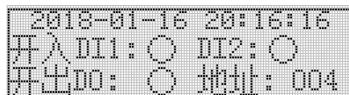

图 5 开入开出状态显示界面 Figure 5 Open status display interface
模块实时值界面，按下 \square 键进入开入开出状态显示界面，如下图 5 所示
Module real-time value interface, press the key to enter open status display interface, as shown in Figure 5
- **地址后的数字：** 代表当前主模块的地址标号，如图 5 所示主模块地址为 004。
- The number after the address: represents the address label of main module, as shown in Figure 5, the main module address is 004.
③ 复位自检界面 Reset self-test interface